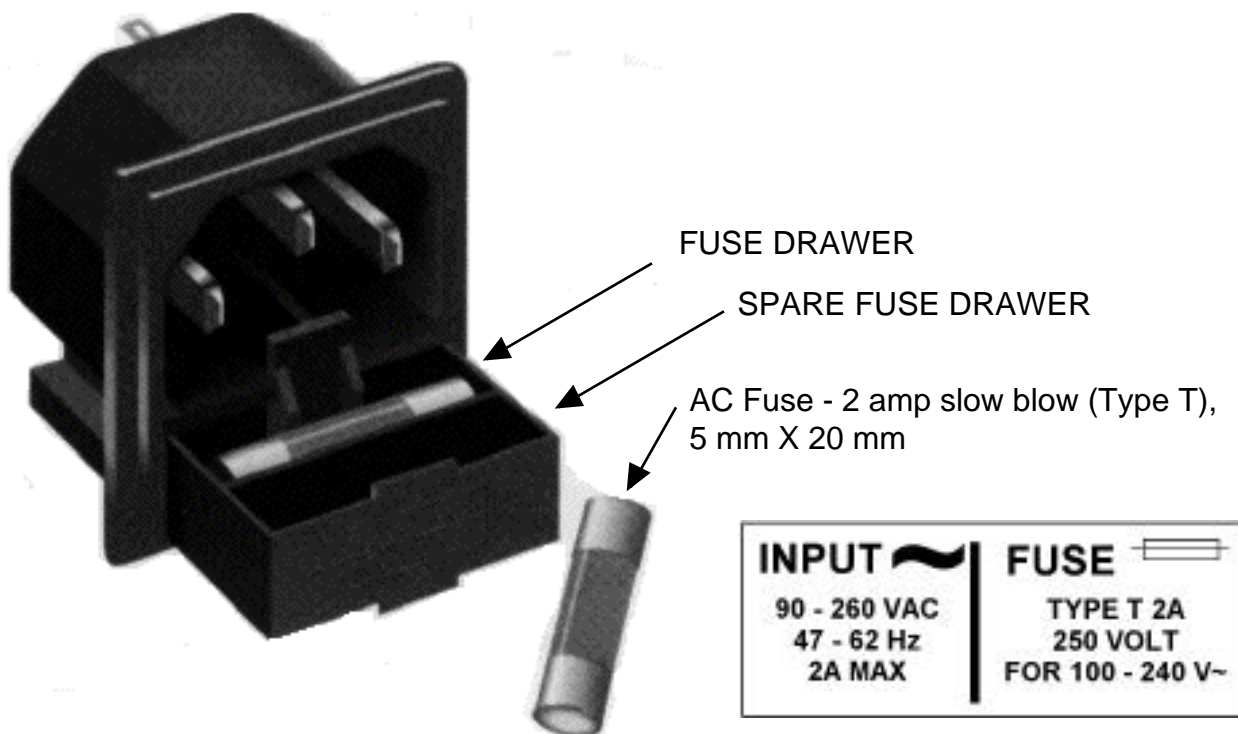

FIGURE 2.3 FUSE LOCATION AND SPARE FUSE
- 6.) **AC Fuse** - The fuse is a 5 mm X 20 mm, 2 amp slow blow (Type T) and is inserted in the far slot in the drawer below the AC input as shown in Figure 2.3. There is a spare fuse in the near slot. If a fuse continues to open, the power supply is most likely defective.